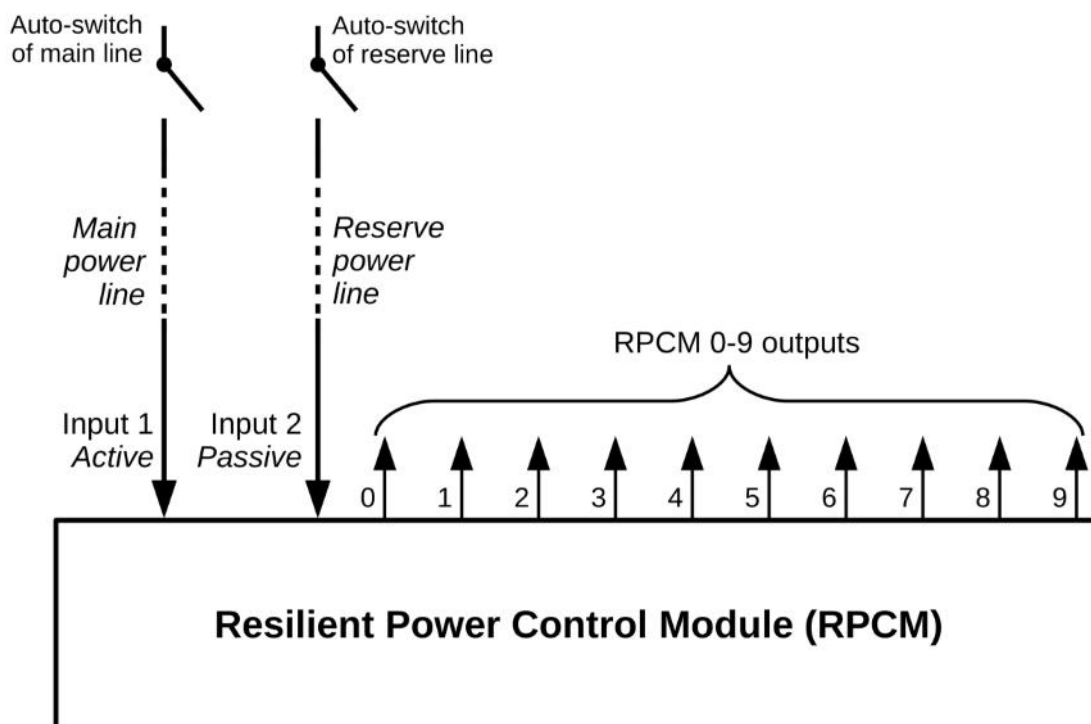
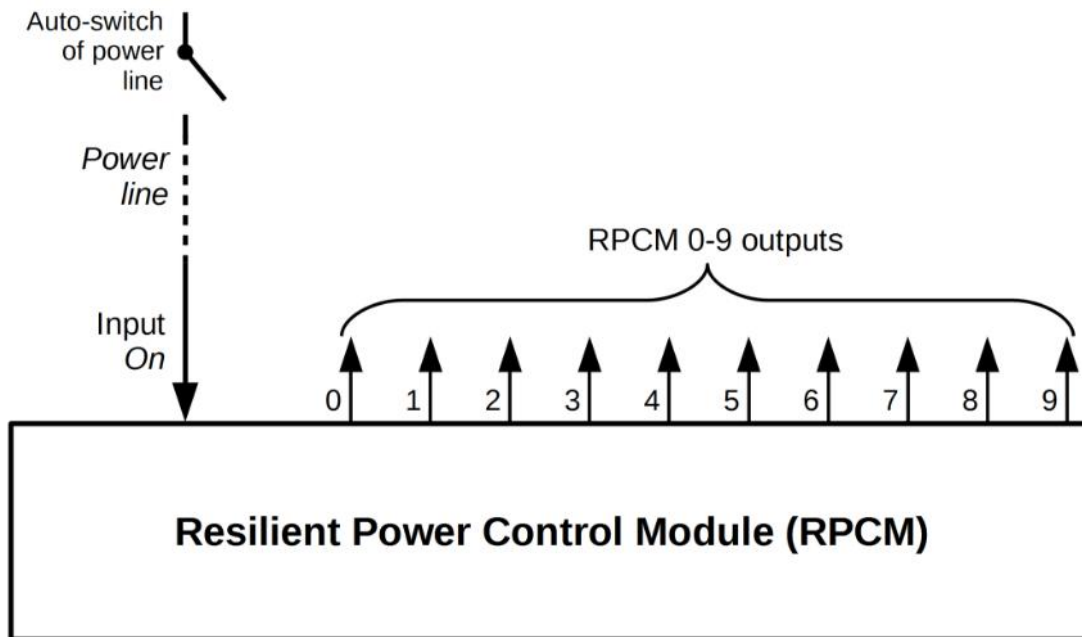

Figure 2.2.3. Connecting RPCM 1502 and RPCM 1532.
Figure 2.2.4. Connecting RPCM ME 1563.
- 3 prepare the power lines to connect the module as shown in Figure 2.2.3 for RPCM 1502 and RPCM 1532 or Figure 2.2.4 for RPCM ME 1563;